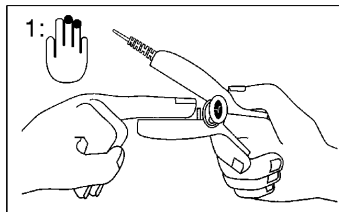

Fig. 18 DC1 sensor placement
1. Open the sensor by pressing on hinge tabs. Place the selected digit over the sensor window of the LNOP DC1. The fleshiest part of the digit should be covering the detector window in the lower half of the sensor. The top half of the sensor is identified by the cable. On finger sites, the tip of the finger should touch the raised digit stop inside the sensor. If the fingernail is long, it may extend over and pass the finger stop (Fig. 18).